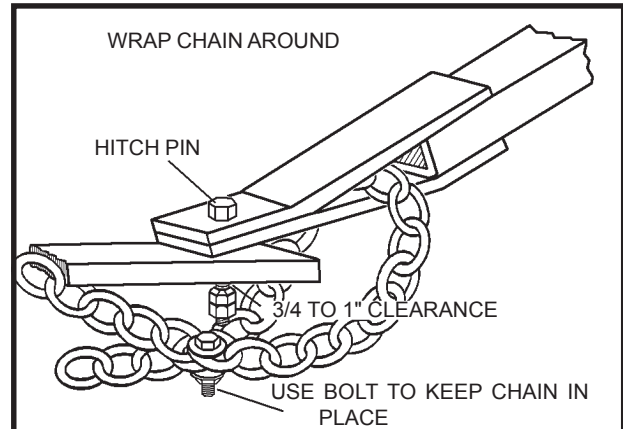

Figure No. 36
2. Make certain that the hitch pin and safety chain are in place and secure. Place safety chain through clevis welded to auger hitch tube and bolt together before attaching to tractor (see **Figure No. 36**).